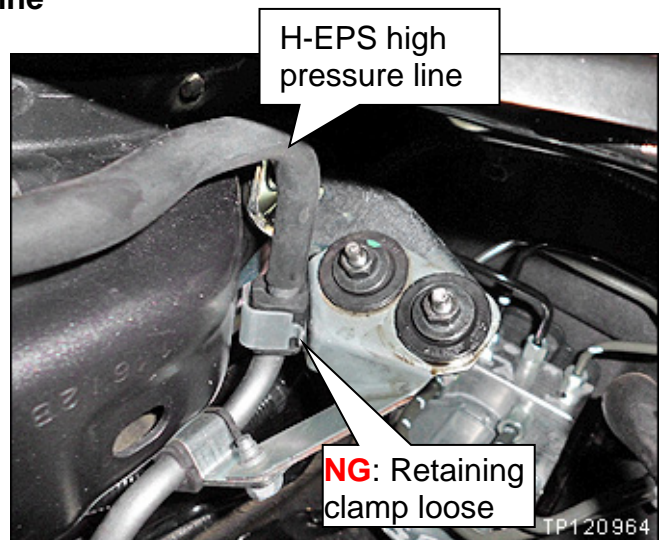

Figure 7
Check the H-EPS high pressure line retaining clamp shown in Figure 7.
- Figure 7 shows a clamp that **is not** secured correctly.
- b. If the clamp is loose like the one shown in Figure 7, replace the H-EPS high pressure line.